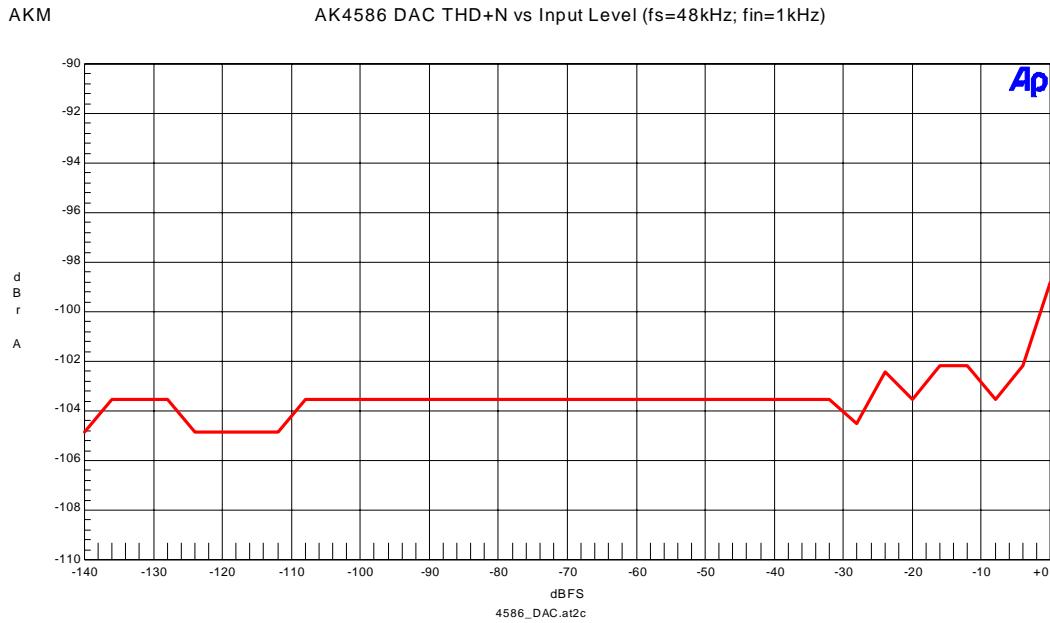

Figure 3-5. THD+N vs Input Level (fin=1kHz)
- Figure 3-5. THD+N vs Input Level (fin=1kHz)